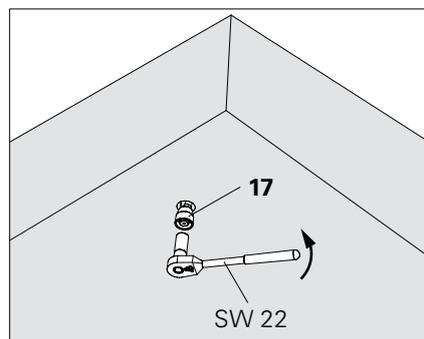

Fig. B1.01b
3. Screw out Threaded Cone M24 (17) from the Anchor Sleeve using a ratchet wrench and socket SW 22.
- (Fig. B1.01b)